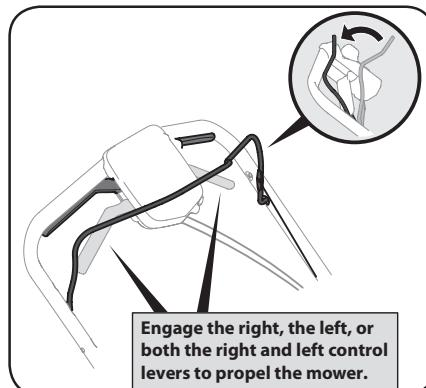

Figure 3-2
- Once the engine is running and while continuing to hold the blade control down, squeeze either (or both) drive controls against the upper handle to propel mower. See Figure 3-2.